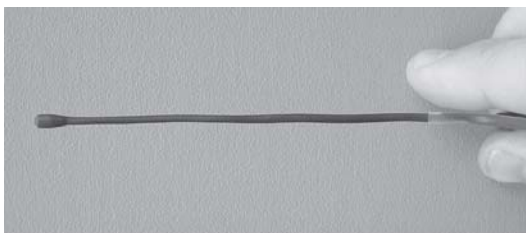

Figure 6
1. **Shape the boom:** Figure 6 shows the microphone boom as received. Before placing the microphone over the user's ear, apply a slight bend to the boom, starting at the middle of the earhook, to aid the microphone boom in forming to the user's face.